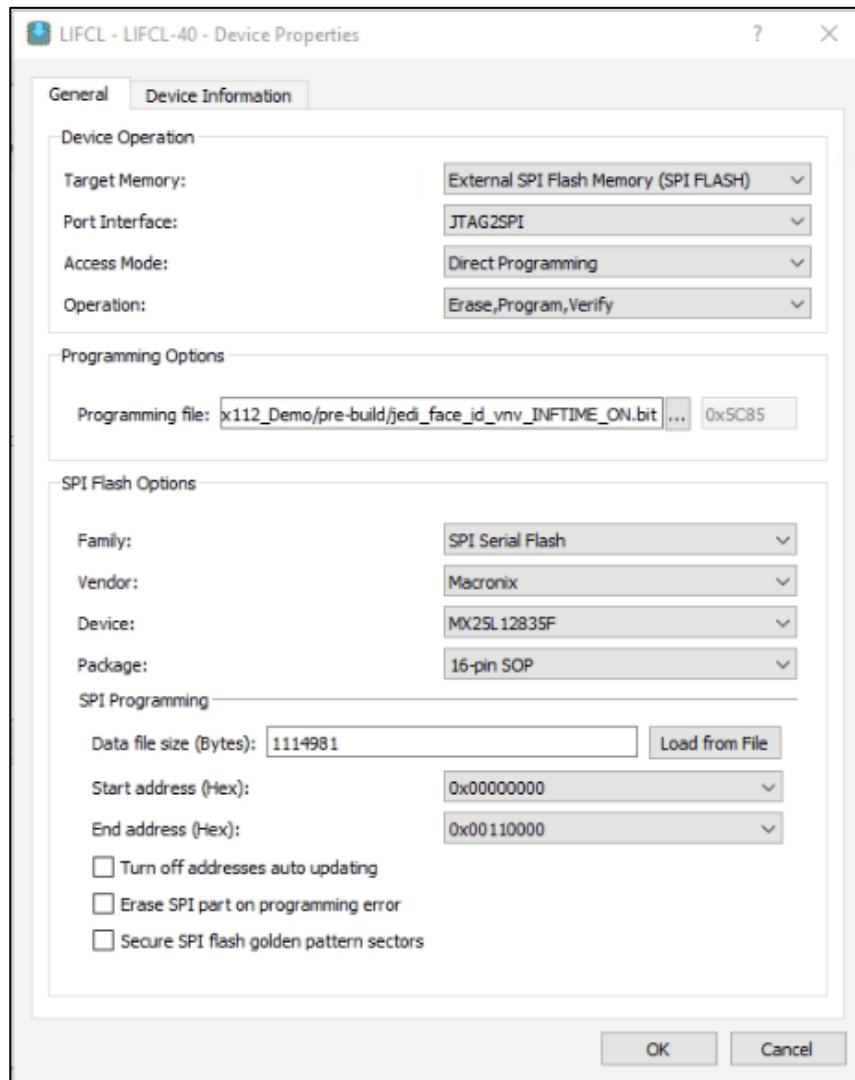

Figure 4.6. Lattice Radiant Programmer – Selecting Device Properties Options for CrossLink-NX Flashing
3. In the **Device Properties** dialog box, apply the settings shown in Figure 4.6.